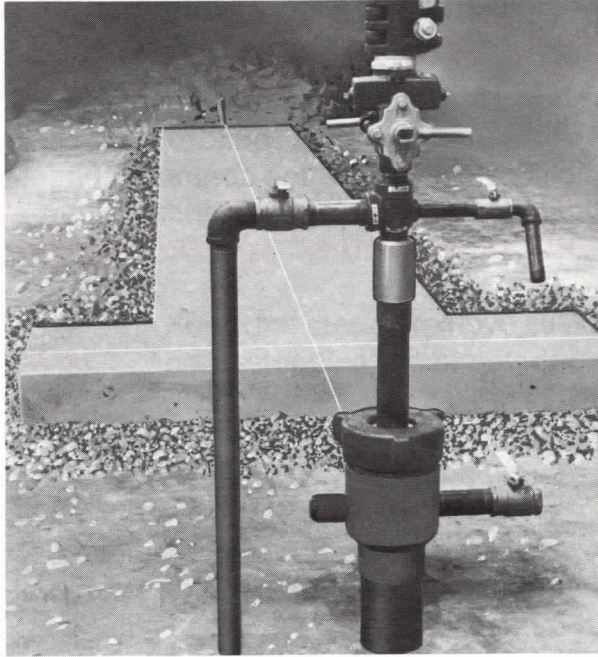

Fig. 1
1. Stretch a chalk line from centerline of wellhead to center of foundation rear end and mark centerline on foundation as well as location of "T" head as shown on foundation plan, Fig. 1. Find and mark centerline of frame "T" head and frame rear cross member on the unit frame.